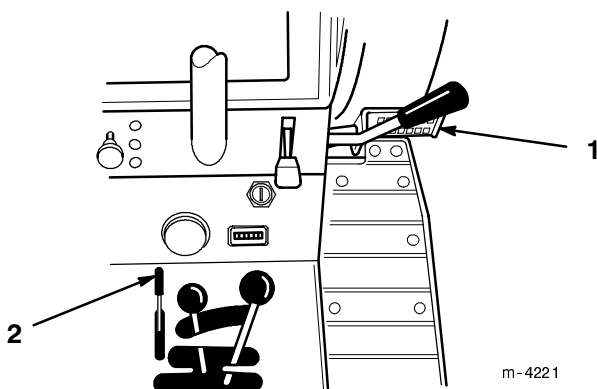

Figure 3
1. Push the brake pedal (Fig. 3) down and hold it in the depressed position.
2. Move the parking brake lever (Fig. 3) back and gradually take your foot off the brake pedal. The brake pedal should stay in the depressed (locked) position.
1. Push down on the brake pedal (Fig. 3). The parking brake lever should release.